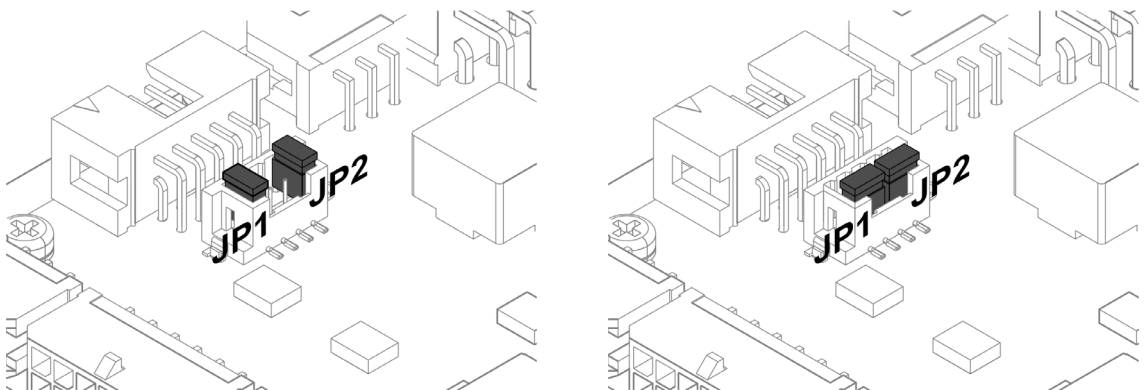

Figure 3-10 Jumpers JP1/JP2 – OPEN; factory setting (left) / CLOSED (right)
- 2) Set jumpers JP1 and JP2 to “closed” position (→Figure 3-10, right).